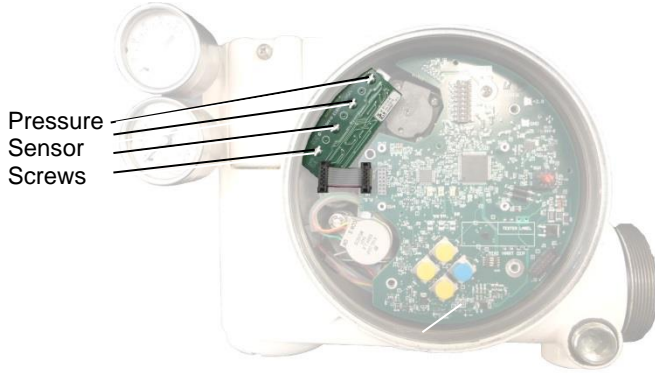

Figure 37: Pressure Sensor Board
- 5 Unplug the pressure sensor connector from the main board (See Figure 37).
- 5 Plug the pressure sensor connector into the main board (See Figure 37).
- 8 Unplug the pressure sensor board connector from the main board. See Figure 37.
- 5 Unscrew the 4 screws holding the pressure sensor board in place. See Figure 37.